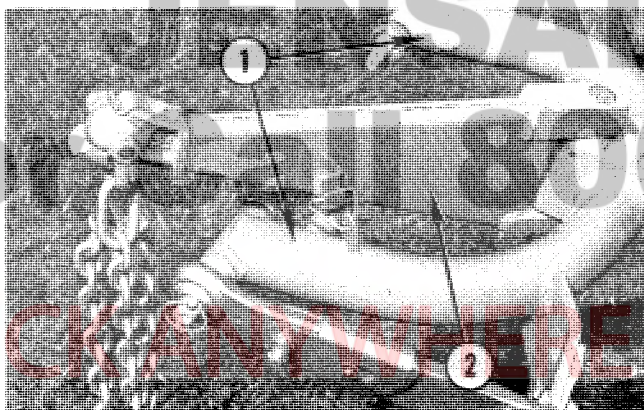

Fig. 29 — Universal Pressure Control Hitch
UNIVERSAL PRESSURE CONTROL HITCH — FIGS. 29, 30 AND 31 (ACCESSORY CODE 1374 026)
1. With hitch assembly installed on Tractor, Fig. 29, start Tractor engine, place Draft Control lever in fully raised position and place inner quadrant lever in Position Control, Fig. 16. Position lift arms until coupler frame is parallel with Tractor, being sure that left and right lift rods are adjusted to equal length.